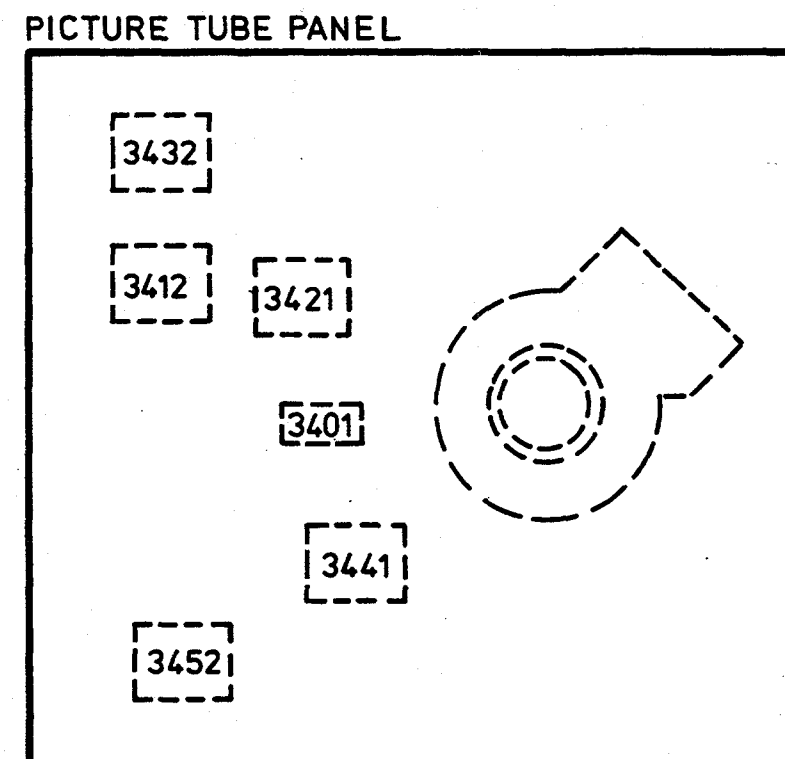

Fig. 6
C. ADJUSTMENTS TO THE CRT BOARD (Fig. 6)